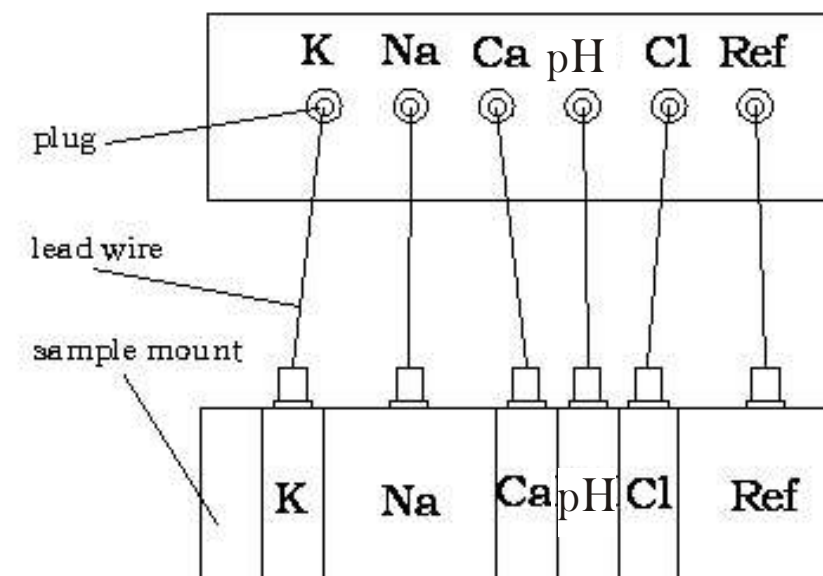

Figure 3
- 6) Connect the electrode lead wires and the grounding wire to the corresponding plugs according to figure 3.